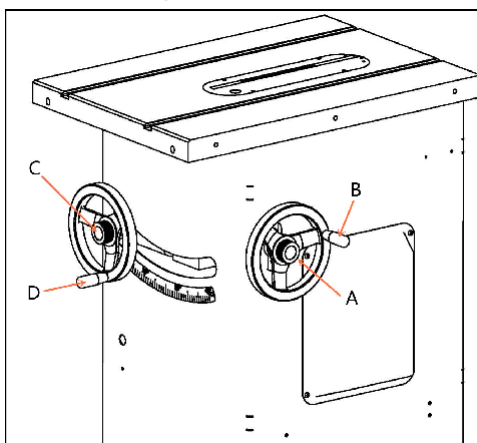

Fig. 30
To adjust the blade elevation : Loosen the lock knob (C) as shown in **Fig. 30** and turn the elevation hand wheel (D). When the desired height is obtained, re-tighten the knob (C). The blade should be raised 1/8” to 1/4” above the top surface of the material being cut.
Refer to **Fig. 30**.